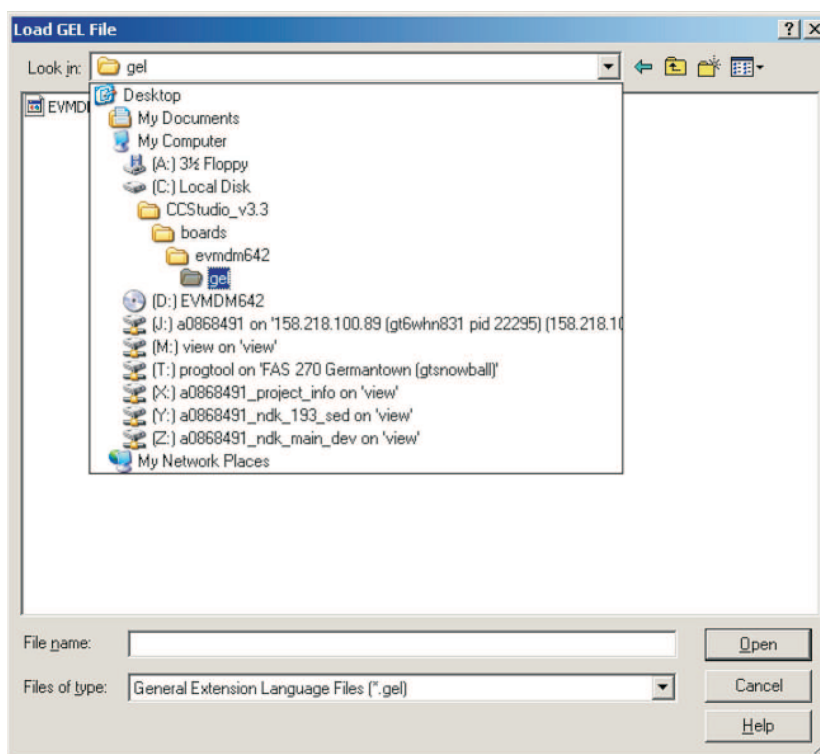

Figure 2. DM642 Gel Load
11. Ensure the DM642 GEL file is loaded, once in Code Composer Studio. Click on File → Load Gel. Select the GEL file from the location where the DM642 BSL package was installed (see Figure 2). (This step is done while installing the DM642 support; there is typically a CD provided along with each platform).